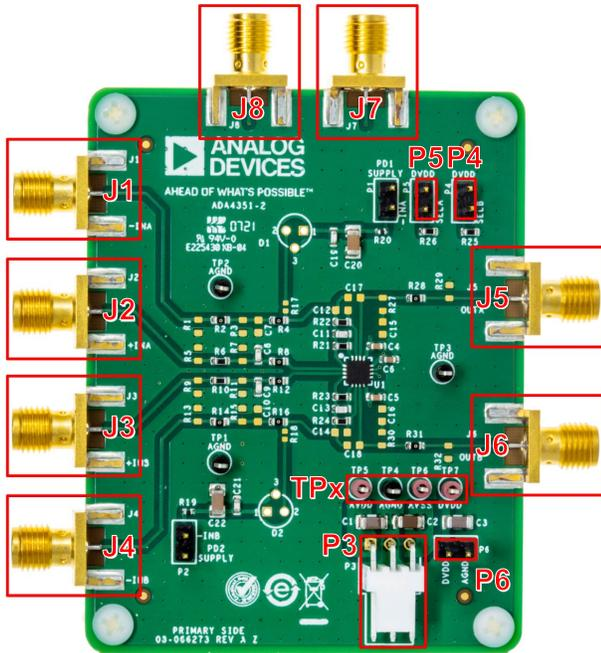

Figure 3. Designator Map of the EVAL-ADA4351-2EBZ
The EVAL-ADA4351-2EBZ provides users with features that make for easier evaluation and operation. Figure 3 shows the key components of the EVAL-ADA4351-2EBZ and Table 1 details their designators and descriptions.
The EVAL-ADA4351-2EBZ provides a 3-pin header for analog supplies and a 2-pin header for digital supplies. For proper connection, see P3 for the analog supplies and P6 for the digital supplies as shown and detailed in Figure 3 and Table 1.
Though the test points are intended for measuring the supply voltages, the provided test points can also be used as a means to access the supply planes. Refer to TPx in Figure 3 for their location and to Table 3 for their proper connections.
The EVAL-ADA4351-2EBZ provides pin headers that, when shorted, connects to the DVDD supply to change the switch state from low to high. The pin header for Channel A is P5 (SELA), as shown in Figure 3, while the pin header for Channel B is P4 (SELB).
switch control pins. The SMA jack for Channel A is J8 (SELA), and the SMA jack for Channel B is J7 (SELB)(see Figure 3).
- Connect the supplies to their designated test points (see TPx in Figure 3).